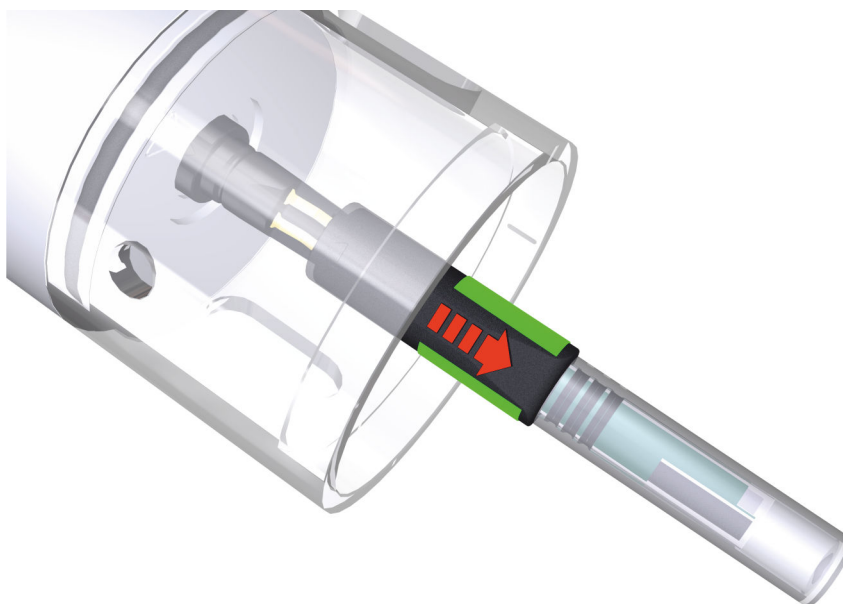

Figure 13 Remove scTRACE Gold electrode
- 3 Hold the scTRACE Gold left and right on the splash protection as indicated with the green marks in *Figure 13*.